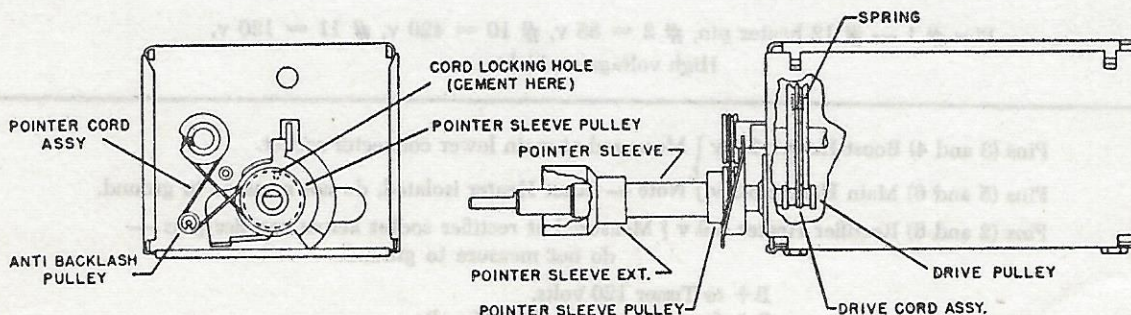

Fig. 20. Dial drive detail.
Wrap drive cord assembly $1\frac{1}{2}$ turns on drive pulley (Fig. 20) and slip other end over pulley on rotor shaft, keeping prong clip in center of slot, hook one end of spring over cord, and the other end over tab on pulley.
With condenser at maximum capacity and hole in pointer sleeve pulley in position shown, press prong clip on pointer cord assembly into hole and wrap end of loop around end of condenser rotor shaft (Fig. 20), making certain that cord is seated in groove in rotor shaft. Loop loose end of cord assembly over anti-backlash pulley as shown. Apply a drop of "Duco" household cement over cord seated in groove in rotor shaft to prevent cord from slipping.
- (1) Tune unit to channel 13 (station or signal generator).
- (2) Unsolder pointer sleeve ferrule and rotate until pointer registers on number 13 of dial escutcheon.
- (3) Solder pointer sleeve extension to pointer sleeve (Fig. 20).